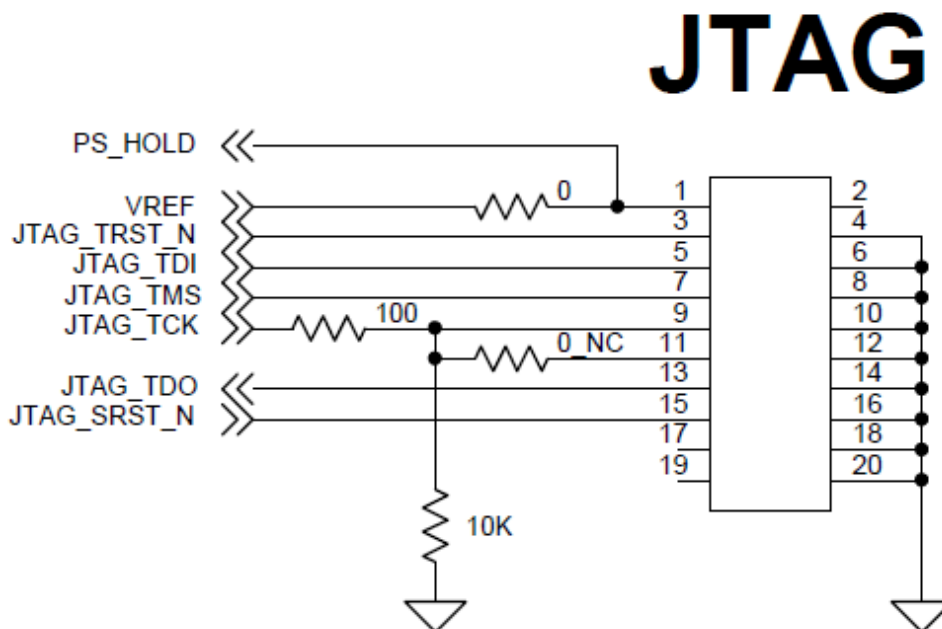

Figure 6. JTAG schematic (example)
- An input to the POWER_ON pin shall trigger the transition from the Module Disabled to the Module Enabled state. See figure6, a low pulse($t_{low} > 0s$) on POWER_ON pad will enable the module after VCC is applied.
- An input to the POWER_ON pin shall trigger the transition from the Module Enabled to the Module Disabled state. See figure6, after power on, a low pulse ($t_{low} > 2s$) on POWER_ON pin will disable (power-off) the module.